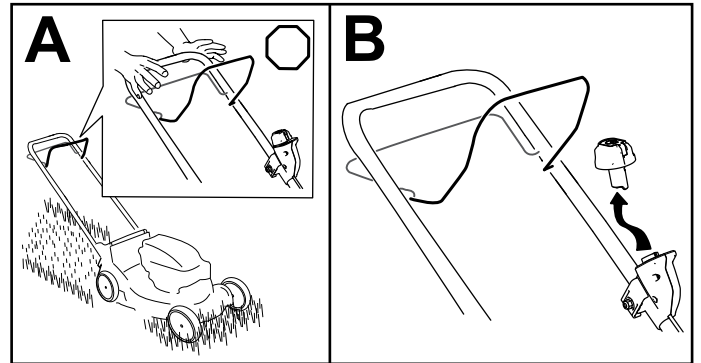

Figure 15
1. Release the blade-control bar (A of Figure 15).
2. Remove the electric-start button from the electric starter (B of Figure 15).